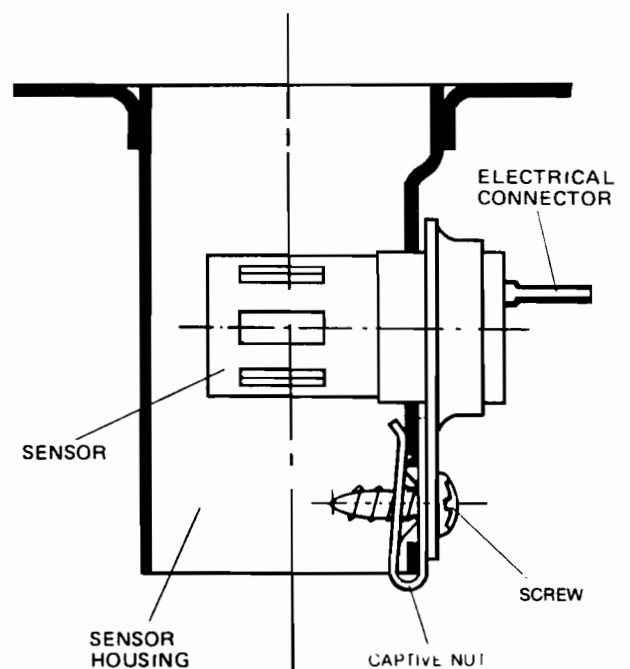

FIG. 39 AIR FLOW SENSOR
29. AIR-FLOW DETECTOR (see Fig. 39)